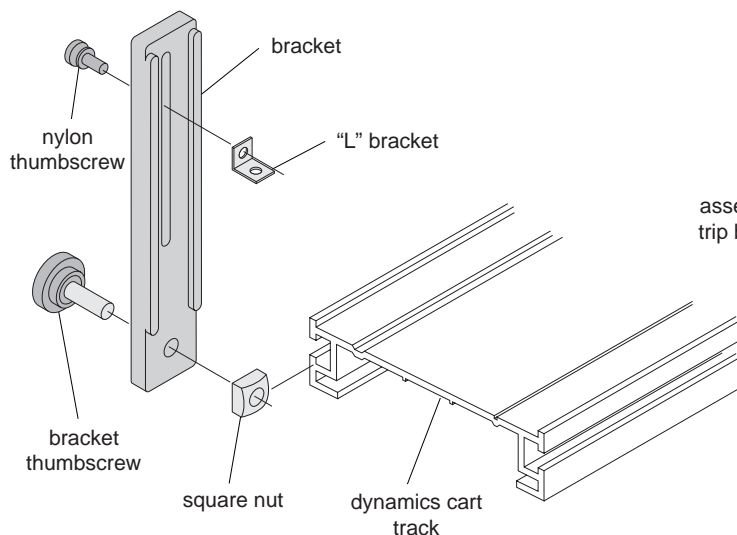

Figure 3: Using the Trip Bracket
- Slide the photogate trip bracket into the T-slot on the dynamics track. See Figure 3.
- ② Level the dynamics track. To check if the track is level, place the cart on the track and give it a small push in one direction. Then push it in the opposite direction to see if the cart rolls easier in one direction than the other. Also make the track level from side-to-side by placing the plastic ball at rest on the track to see if it rolls one way or the other.
- ③ With the cart at rest on the level track, adjust the aim adjust screws until the ball shoots straight up and lands back in the catcher cup. Use a penny or dime to trip the photogate when the cart is at rest. Remember, the power switch must be turned on before the trip switch will operate. The LED will blink while the power is on. Also remember to turn the power switch off before storing the accessory.
► **NOTE:** The trip switch must be mounted on the same side as the photogate on the Ballistic Cart. See Figure 3.